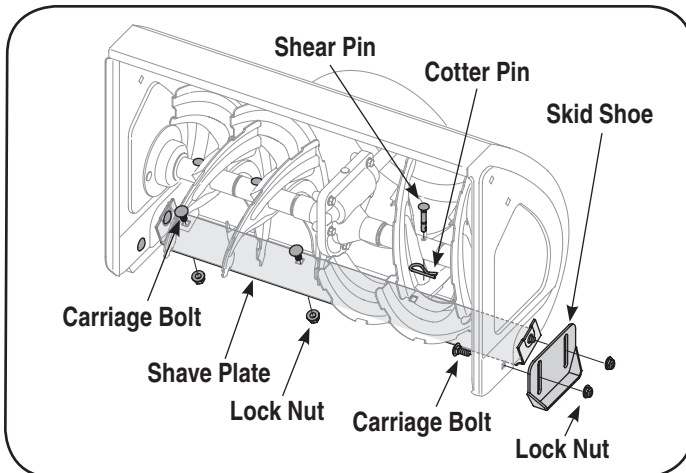

Figure 10
1. To replace, remove two carriage bolts and nuts securing each skid shoe to the auger housing. See Fig. 10.
3. **To remove shave plate:** Remove both skid shoes and hardware including carriage bolts and nuts which attach shave plate to the snow thrower housing. For location of shave plate, see Figure 10.
The augers are secured to the spiral shaft with four shear pins and cotter pins. If you hit a foreign object or ice jam, the snow thrower is designed so that the pins may shear. Refer to Figure 10. If the augers do not turn, check if the pins have sheared. Replace, if needed, with proper shear pins. Refer to item 42 on page 19 for part number.